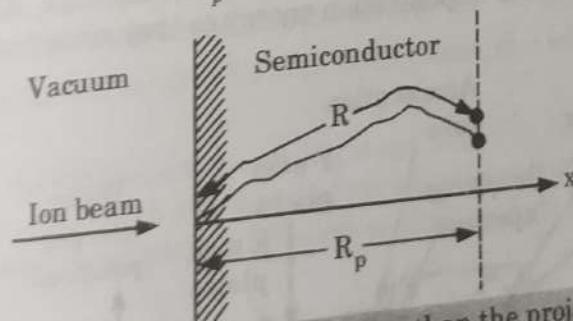

Fig. 4.16.1. The total path length R is longer than the projected range R_p .
5. The lateral motion of the ions to a lateral Gaussian distribution with standard deviation σ . The ion ranges is shown schematically in the Fig. 4.16.1. Far from a mask edge, we can neglect the lateral motion and write the ion concentration $n(x)$ as